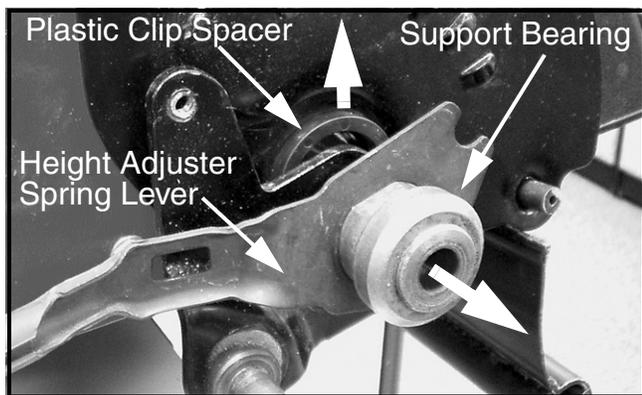

FIGURE 7
15. On the left side, remove and discard the transmission support bearing from the transmission's output shaft. Remove the height adjuster spring lever. Remove and discard the plastic spacer clip. See Figure 7.